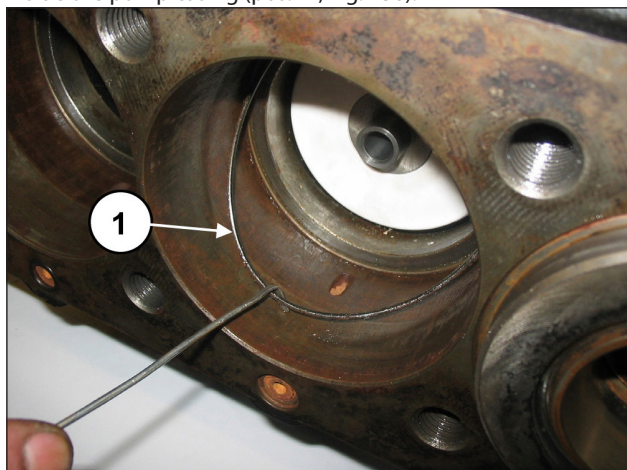
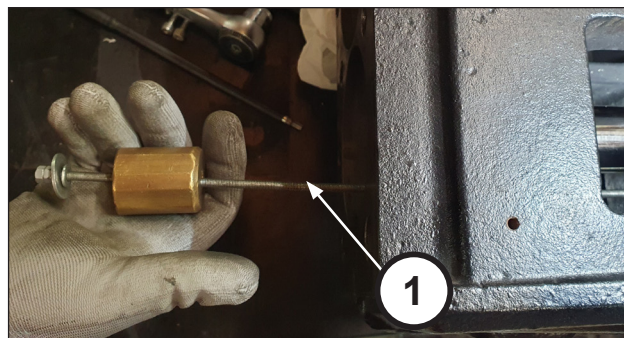

Fig. 136
Fig. 139
Remove the seal support bottom O-ring should it remain inside the pump casing (pos. ①, Fig. 136).
Position the piston guide at bottom dead center, screw an M6 extractor into the appropriate holes on the cover (pos. ①, Fig. 136) and remove the oil seal cover from the pump unit (pos. ①, Fig. 139).